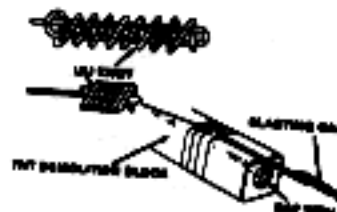

Figure 15-11C. Alternate method #3.
(3) Alternate method number 3 is shown in figure 15-11C. Form a Uli knot with a minimum of eight wraps using a 20 to 24-inch length of detonating cord. This knot equals the power output of three to four blasting caps. Tape the knot tightly to the demolition charge to be detonated.